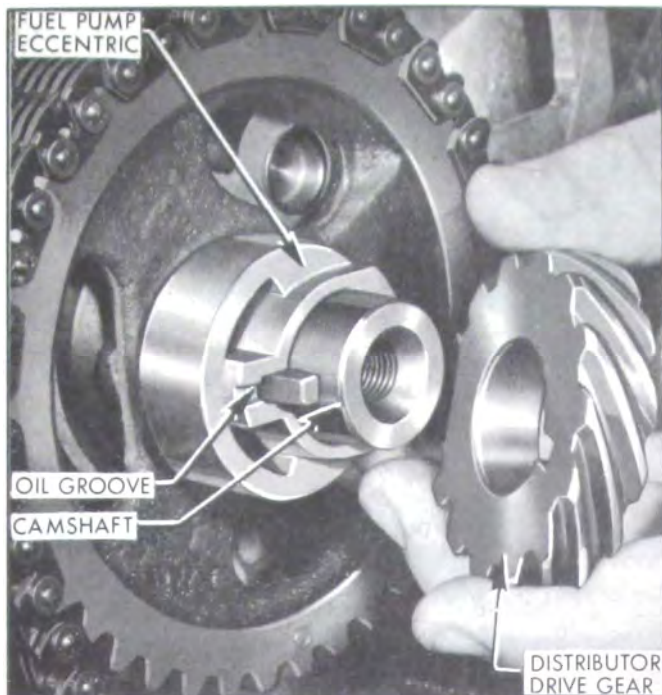

Figure 2-46—Fuel Pump Eccentric and Distributor Drive Gear Installation
5. Slide fuel pump eccentric on camshaft and Woodruff key with oil groove forward. See Figure 2-46.
6. Install distributor drive gear. See Figure 2-46.